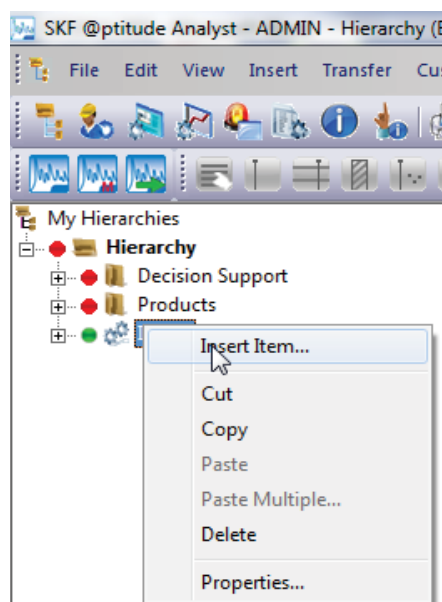

Fig. 1. Select "Insert Item".
- 1 From SKF @ptitude Analyst, right-click on the needed machine and choose **Insert Item** (→ **fig. 1**).